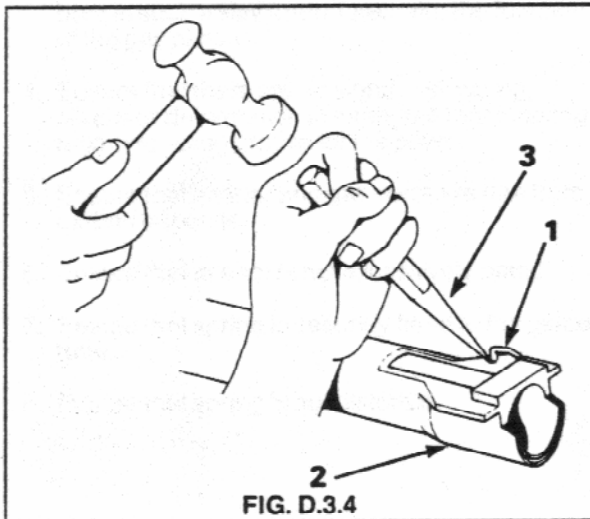

FIG. D.3.4
4. Fit the spring into guide hole and centre punch the metal around the hole to locate the spring securely. See Fig. D.3.4.